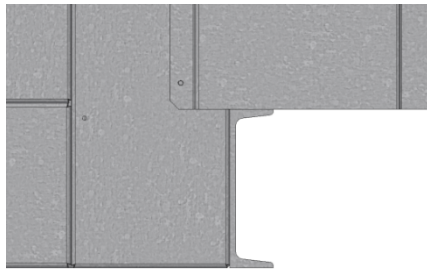

Figure 10. Perimeter Flange
3. Wipe moisture and dirt from the C-shaped perimeter flange along the full length of the unit as shown in **Figure 10**.